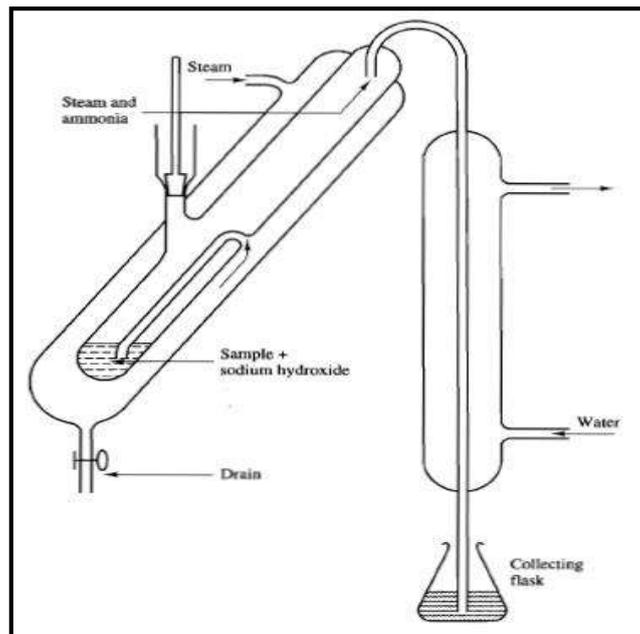

Figure 10
For example distillation of ammonia (Fig. 10) that produced from organic nitrogen (for example protein) using **Kjeldahl method**.
- The cooled mixture is transferred to a steam distillation flask, and after making the mixture alkaline with excess sodium hydroxide the ammonia is distilled into a receiver flask (Fig. 10).